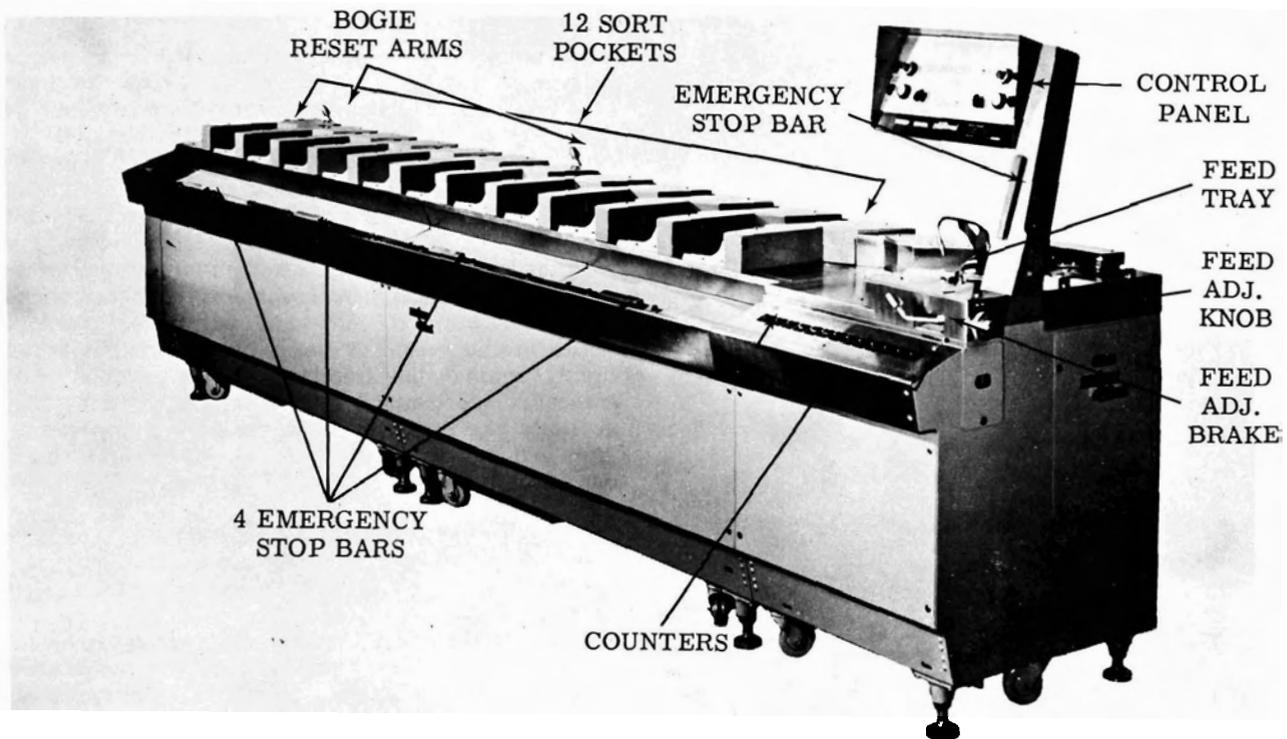

Figure XV-1. 12-Pocket Document Handler (750 Documents/Minute)
The 12-pocket document handler subsystem (Model S100E) provides input to the GE-225 Information Processing System. It consists of one or two document handlers (often called sorters), an adapter (which is a controller), and a unit called the 'Z' rack. The document handler is illustrated in Figure XV-1. Its operating principles are similar in many respects to those of the GE 12-pocket document handler described in Section XIV. The main differences between the two subsystems are the processing speeds, timing considerations, and the physical location and arrangement of panels and operating parts. In this model, the sorter control electronics, the maintenance panel, and the plugboard are contained in a separate module, the 'Z' rack, which has its own power supply (see Figure
The document handler (Figure XV-1) accepts randomized documents encoded with a special font of magnetic ink character recognition characters. It reads the magnetically-encoded information into the memory of the computer via the adapter and the controller selector. From memory, the information is often transferred to magnetic tape where it can be used in updating master files, for other calculations, and for storage.
The document handler illustrated in Figure XV-1 is an electromechanical device which has two functional categories of components: those associated with feeding, transporting, and stacking documents; and those associated with reading document content. These functions are aimed at achieving two ultimate objectives: to get the desired information from magnetically encoded characters into the memory of the computer for processing; and to automatically separate or sort batches of intermixed documents into a desired sequence for filing or other purposes.
**Feed Adjustment Knob.** This knob, at the right end of the document handler (Figure XV-1), adjusts the throat of the feed area to permit smooth document feed. The knob is to be used only by service engineering personnel, and should normally hold its adjustment and not require special attention. However, excessive feeding difficulty may indicate to the operator that the knob is not adjusted properly, in which case, the serv-
**Feed Adjustment Brake.** The handle to this brake is on the right end of the document handler (Figure XV-1). It is used in conjunction with setting the feed adjustment knob, and is to be used only by service engineering personnel.
**Emergency Stop Bars.** Five emergency stop bars (switches) enable the operator to halt the document handler if an emergency should occur. Four of these stop bars are located along the front of the document handler and one is on the control panel tower, enabling the operator to turn the document handler power OFF from any position along the front of the machine. (See Figure XV-1.)